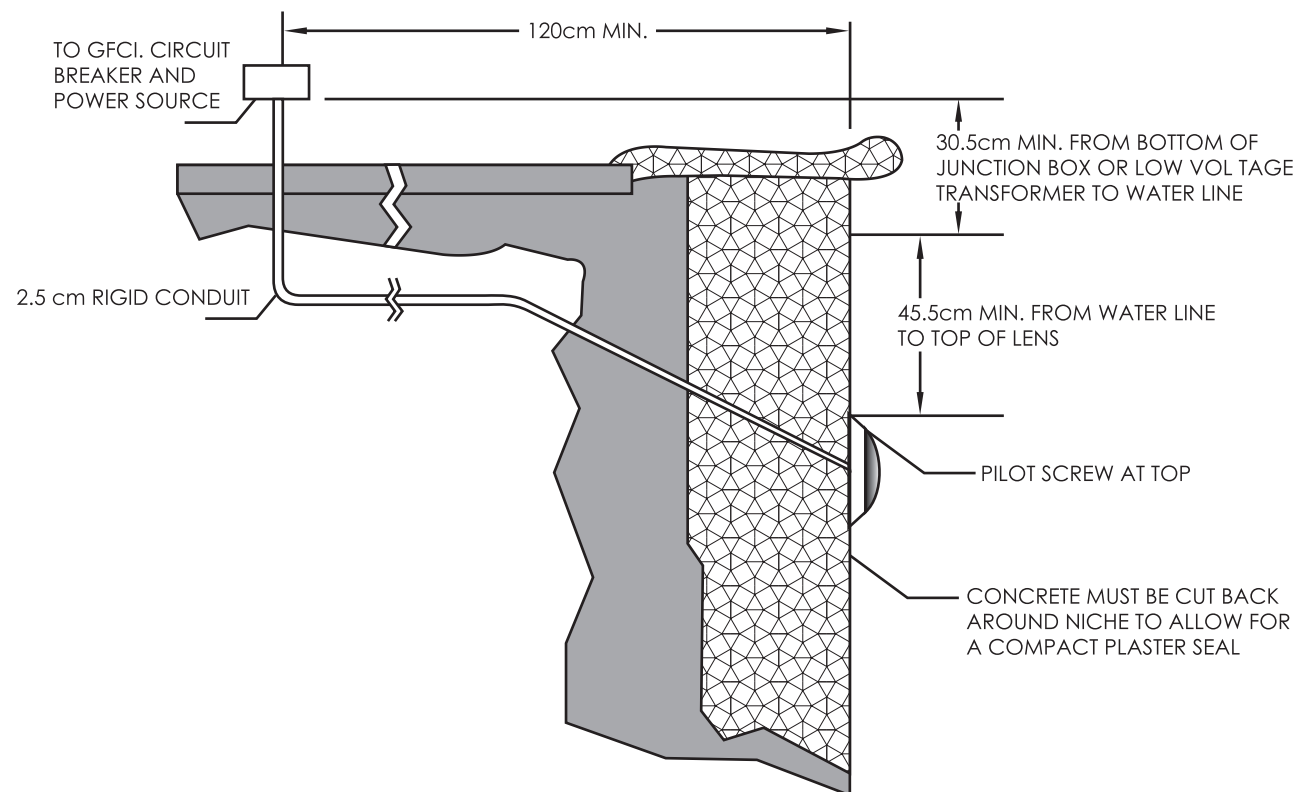

Figure 1.
A) Preparatory steps which must be completed by the electrician before light is installed, see Figure 1.
- The junction box, or the low voltage transformer for 12 volt models, is located at least 30.5cm above water level and at least 120cm from the edge of the pool, see Figure 1.
- The mounting bracket must be properly installed so that the top edge of the Underwater Light's lens is at least 45.5cm below the surface of the water in the pool. Top of lens corresponds to center of center of Plastic Mounting Hub, see Figure 1.